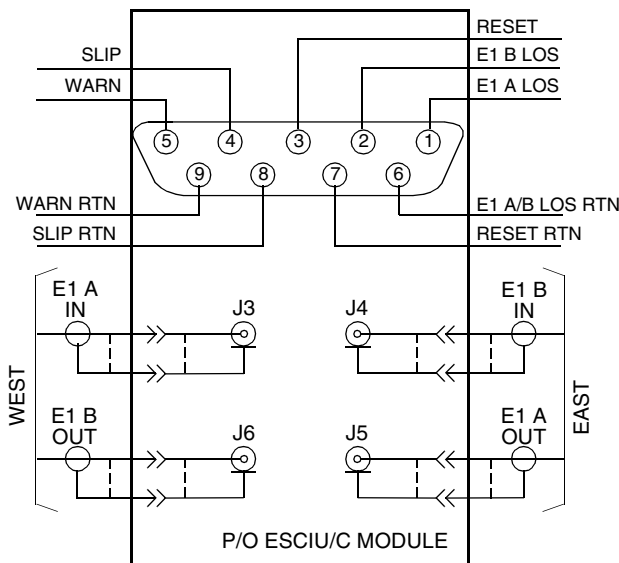
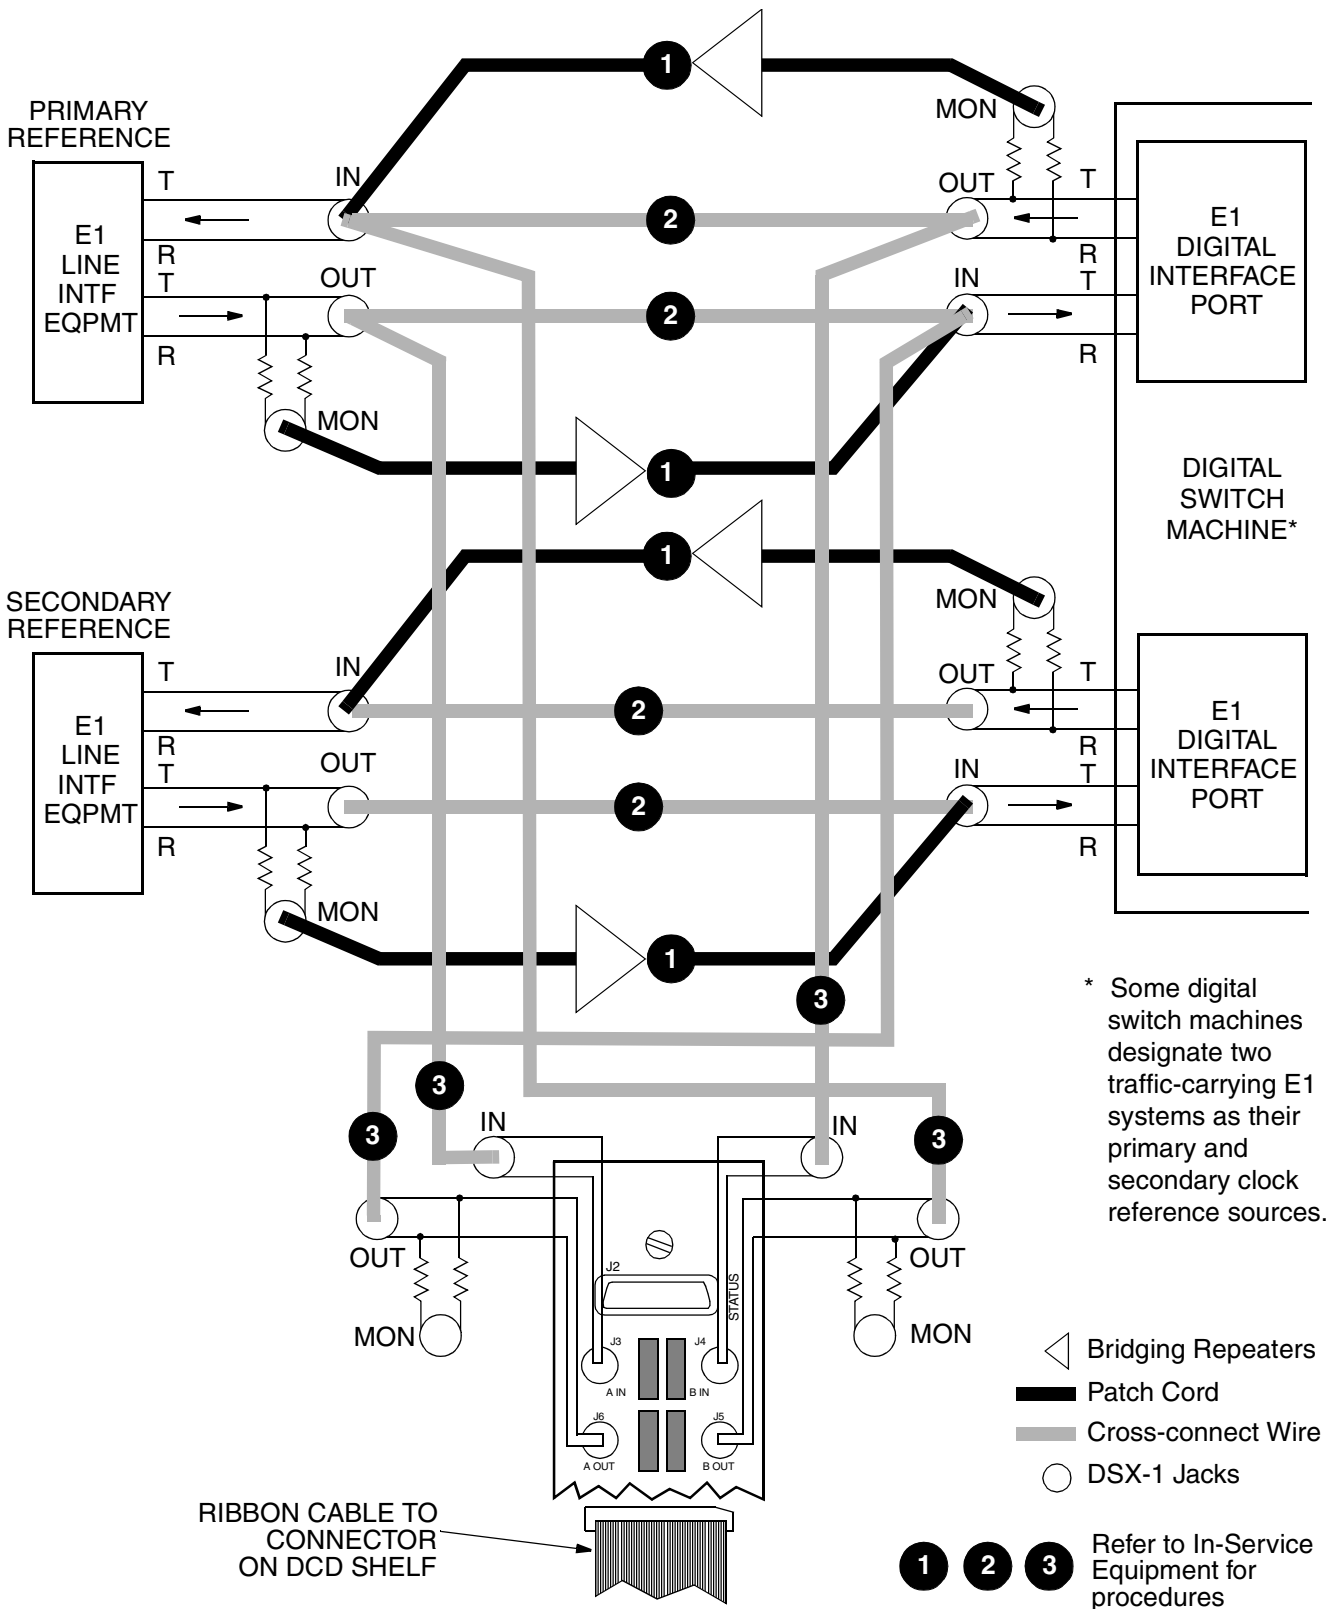

Figure 32. ESCIU/C Module Connections
Figure 34. ESCIU Cutover with Jacks (In-Service)
5.34 The ESCIU/C module is cabled as shown in Figure 32.
5.35 For 75 Ω impedance, use BT 3002 or equivalent cable (user-supplied), to connect the module’s EAST and WEST terminals to the two network elements on the spans; refer to Table K and Figure 32. Repeat for each module installed.
5.37 For 75 Ω impedance, use BT 3002 or equivalent cable (user-supplied) to connect the module’s EAST and WEST terminals to the two network elements on the spans; refer to Figure 32 and Table L. Repeat for each module installed.
5.39 Use the appropriate cable to connect from the DB9 connector (J2) on the module to alarm monitoring equipment; refer to Figure 32 and Table M. Repeat for each module installed.
5.42 If standard digital signal level access jack sets, such as DSX-1 jacks, were cabled to the ESCIU/C module, the following in-service cutover procedure must be used. Consult the local company Installation Job Specifications to ensure that the network element to be retimed from the DCD-521/C Shelf clock (BITS) will be connected to the ESCIU/C module WEST A OUT terminals (see Figure 32). Refer to Figure 34 for the following procedure: